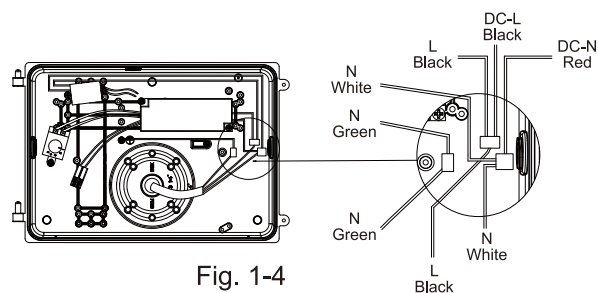

Fig. 1-4
4. Make wiring connections per "Electrical Connections" section and make sure the good wire protection.(Fig.1-4)